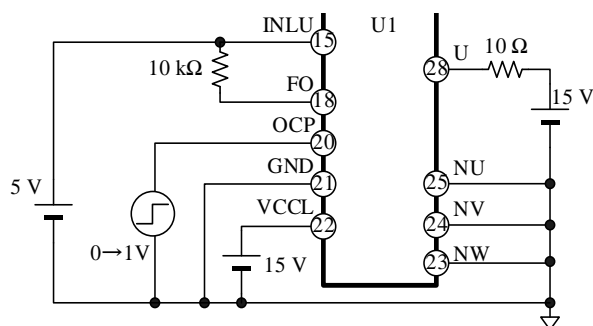
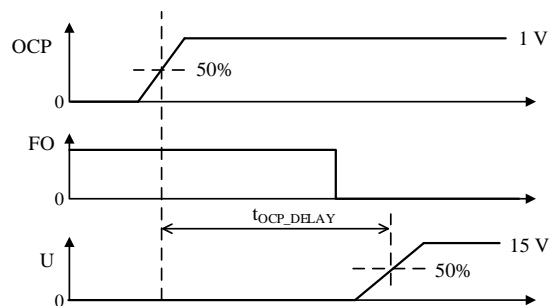

Figure 4-1. Measurement Circuit for OCP Pin Detection Delay Time
Figure 4-2. OCP Pin Detection Delay Time Definition
(3) For the measurement circuit for the OCP Pin Detection Delay Time, see Figure 4-1 (all the pins that are not represented in the figure are open). Figure 4-2 provides the definition of the OCP Pin Detection Delay Time.